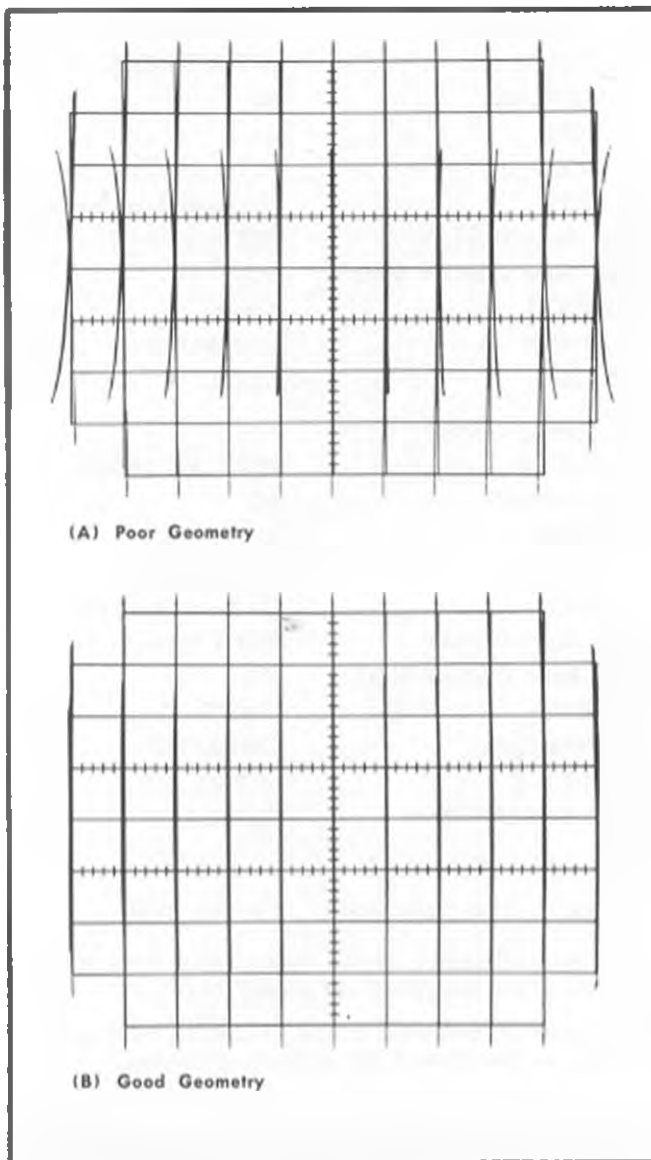

Fig. 6-18. Typical CRT displays showing (A) poor geometry adjustment; (B) good geometry adjustment.
j. Check—Maximum deviation of the traces from vertical graticule lines should not exceed 1 mm. See Fig. 6-18 for examples of geometry adjustment.